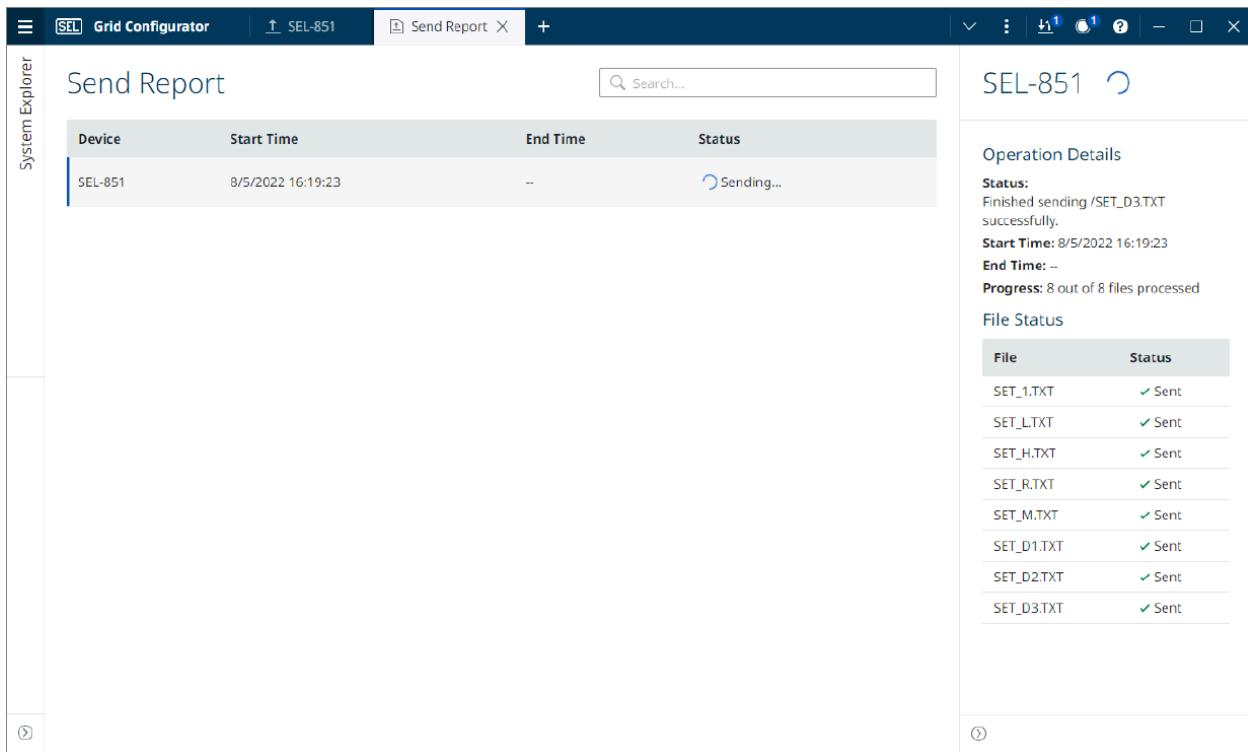

Figure 2.13 Send Report
Step 11. Select the **Send** button, as shown in *Figure 2.12*, to deploy settings to the device. A **Send Report** will open, as shown in *Figure 2.13*, which shows the progress of the operation.